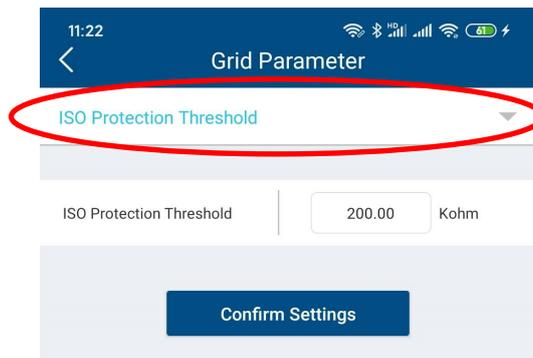

Figure 2-5-20 ISO protection threshold
- **ISO protection value setting:** Insulation resistance monitoring setting of photovoltaic system. As shown in Figure2-5-20.